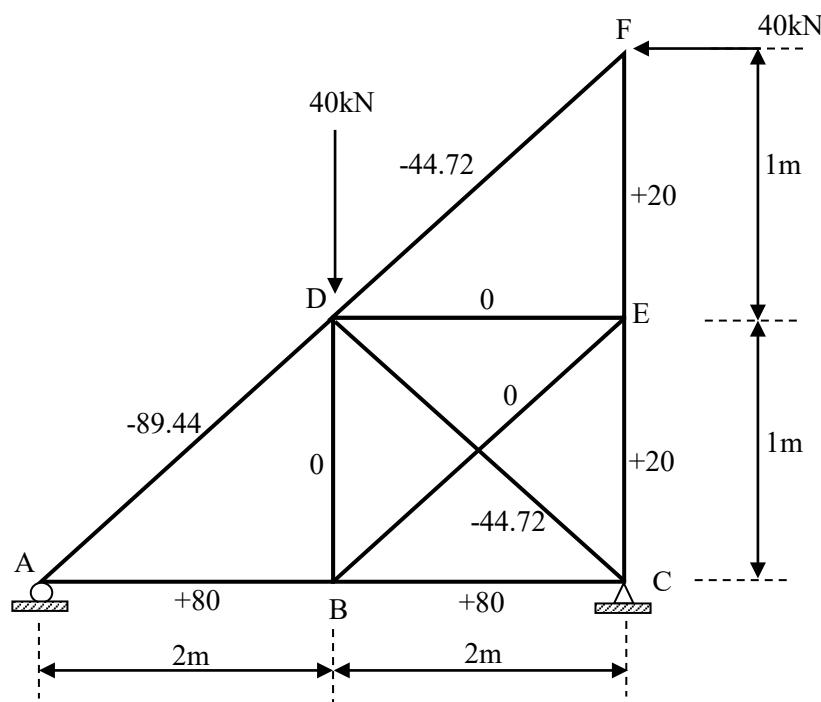

Figure A1(c)/ Rajah A1(c)
- CLO2 (c) A statically indeterminate truss is subjected to an external load as shown in Figure A1(c). The internal forces (P) in each member are given as follows. Given the cross-sectional areas, A and the modulus of elasticity, E for each member of the truss are constant.